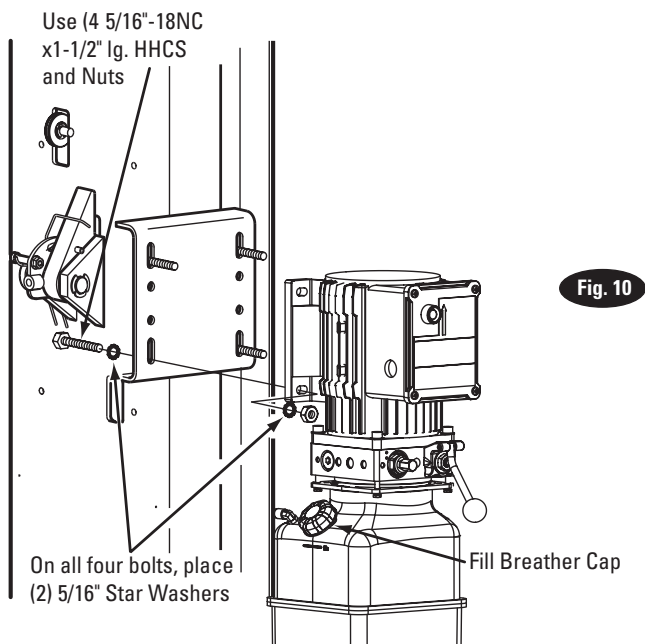

Fig. 10
15. Oil Filling & Bleeding: Use Dexron III ATF, or Hydraulic Fluid that meets ISO 32 specifications. Remove fill-breather cap, Fig. 10. Pour in (8) quarts of fluid. Start unit, raise lift to full rise several times until lift operates smoothly.